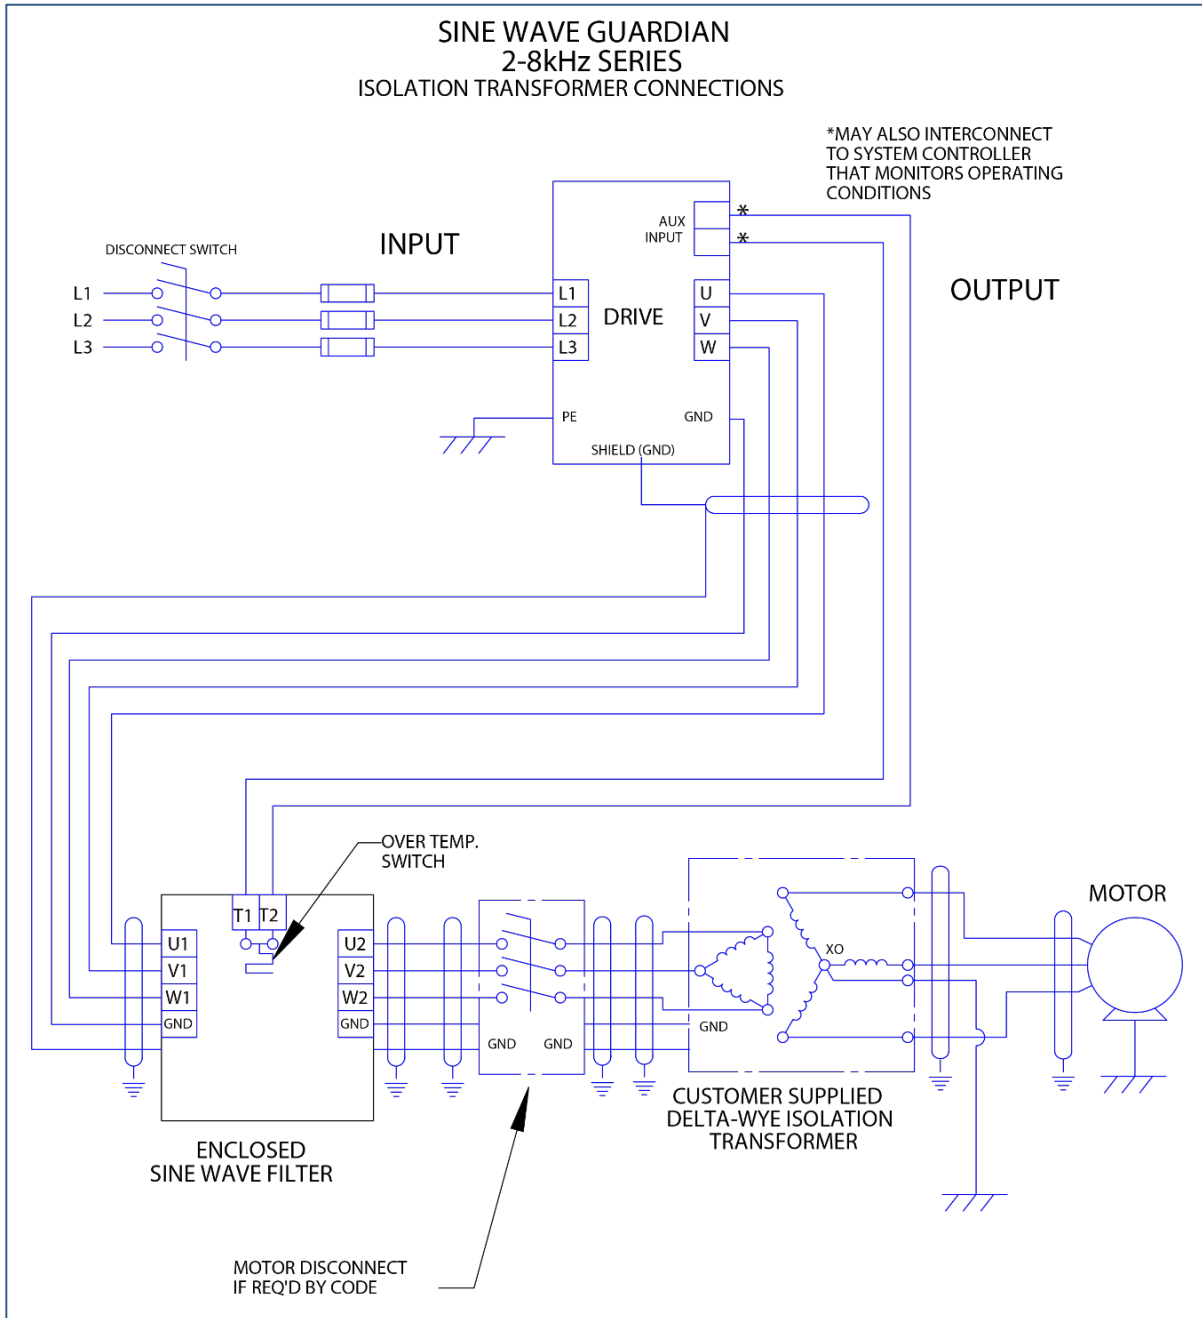

Figure 5-4: Isolation Transformer
- For isolation transformer connections between the power source, the filter, the motor and the drive is shown in Figure 5-4: Isolation Transformer (p30).